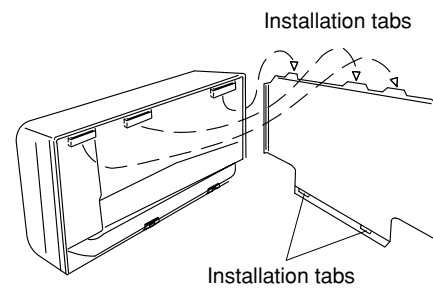

Fig. 3-73
1. When installing the indoor unit, position the indoor unit onto the installation tabs on the upper part of the rear panel. (Fig. 3-73)